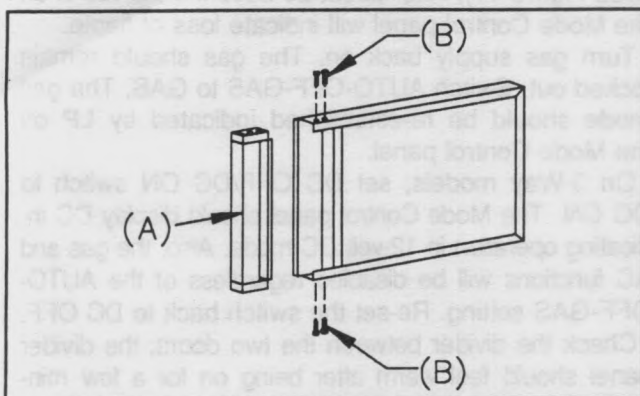

Figure 15
The Norcold refrigerator doors provide slots for inserting decorative panels. Installation of the panels is accomplished by removing the handle assembly, inserting the decorative panel, and re-inserting the handle assembly. This procedure applies to both doors. (See Figure 15)
2. Remove handle assembly (A) by removing four screws (B). (See Figure 15)